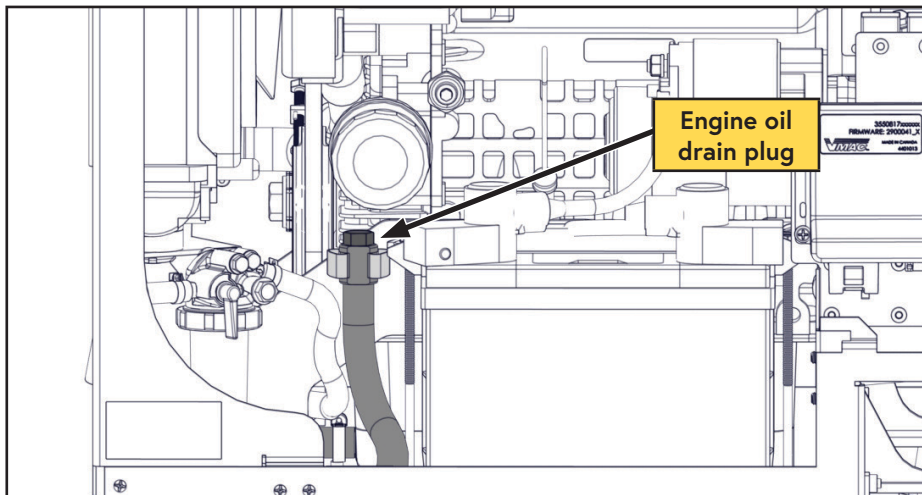

Figure 42 — Drain oil
- ☐ Remove the oil drain plug and drain the oil into a container with a capacity of at least 1.6 USG (6 L) (Figure 42).